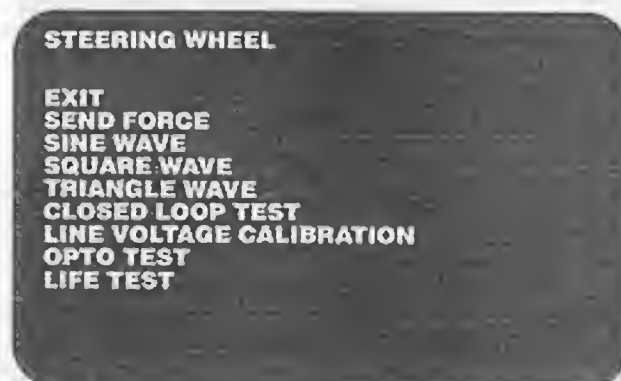

Figure 2-20 Steering Wheel Submenu Screen
- *Steering Wheel* screen submenu is explained below and shown in Figure 2-20.
Use these items if you have a problem with the steering assembly. The screen is shown in Figure 2-20. You will need to read the section *Steering Assembly* in Chapter 3 to find out how to use the tests.